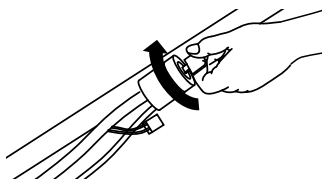
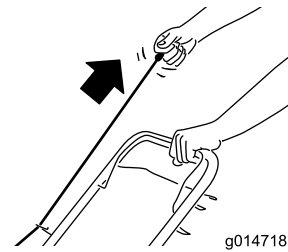

Figure 13
Figure 14
2. Turn the ignition key (electric-start models only; refer to Figure 13) or pull the recoil-start handle (Figure 14).